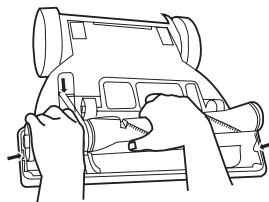

Fig. 27
- Slip the brush roll into the belt and reassemble. (Fig. 27)